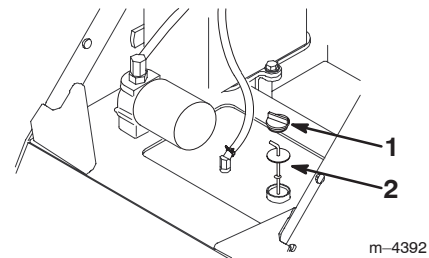

Figure 5
- Clean the area around the filler neck of the hydraulic tank (Fig. 5).
- Remove the cap from the filler neck and check the fluid level on the dipstick (Fig. 5).